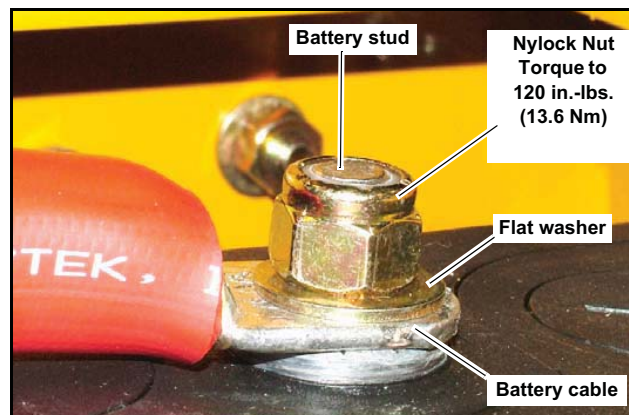

Fig. 5-8
Attach the cable connector to the battery terminal and install mounting hardware per Fig. 5-8. Torque battery terminal nut to 120 in.-lbs. (13.6 Nm). Do not over tighten as this could damage the battery.
6. Check all battery connections. Tighten any loose hardware. Torque battery terminal nuts to 120 in.-lbs. Do not overtighten as this could damage the battery. Fig. 5-8
9. Make sure that the connecting hardware is placed on the battery terminal as shown in Fig. 5-8. Torque nut to 120 in.-lbs. Do not overtighten as this could damage the battery.
Make sure that the connecting hardware is placed on the battery terminal as shown. Torque nut to 120 in.-lbs. Do not overtighten as this could damage the battery. Fig. 5-8